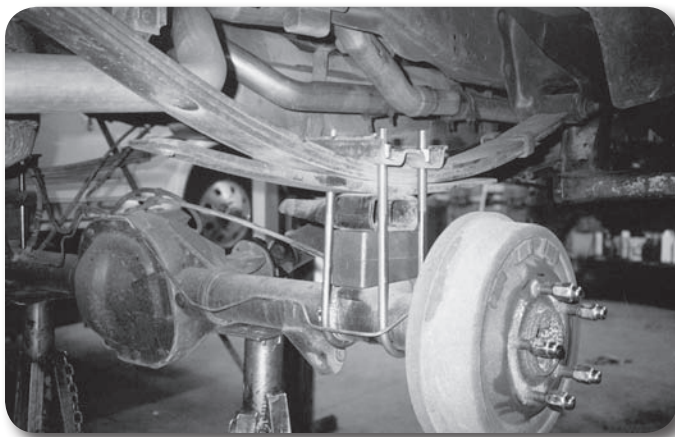

Figure 2
5. Place the new block, tapered end toward the front, between the stock block and the axle. Make sure the bump stop portion of the stock block is pointed the same direction as it was originally. Figure 2